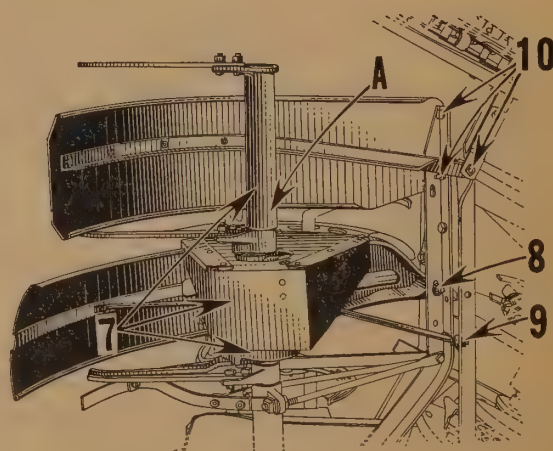

Fig. 13
5. (Fig. 13.) Loosen setscrew in lower end of discharge arm hub, "A".
7. (Fig. 13.) Slide complete knotter, breast plate and discharge arm assembly down on knotter shaft. Secure complete assembly to knotter shaft with setscrews. Be sure setscrews fit in holes in shaft.
8. (Fig. 13.) Rebolt breast plate to breast plate support angle using lower hole.
9. (Fig. 13.) Rebolt round brace to ear on knotter casting and to R. H. gatherer angle as shown.
10. (Fig. 13.) Rebolt stripper shield to upper breast plate support angle and to R. H. gatherer board support angle, using outer hole in stripper shield brace. Be sure lower end of shield fits between breast plate support angle and gatherer support bracket.